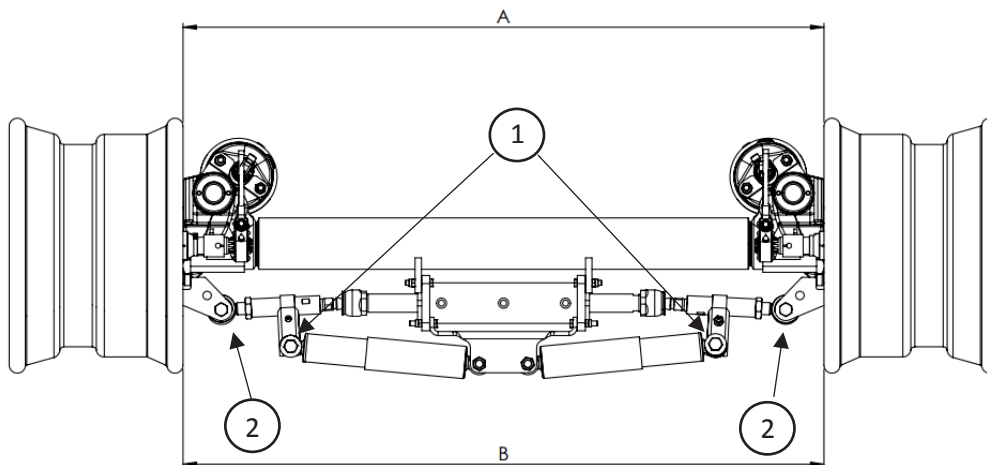

Figure 17 Distance A and B Shown for Wheel Alignment Check
2. Remove the 2 Shock Absorber Pins shown in Figure 17 as item No. 1.
3. Remove the 2 Clevis head Pins shown as No. 2 in Figure 17.